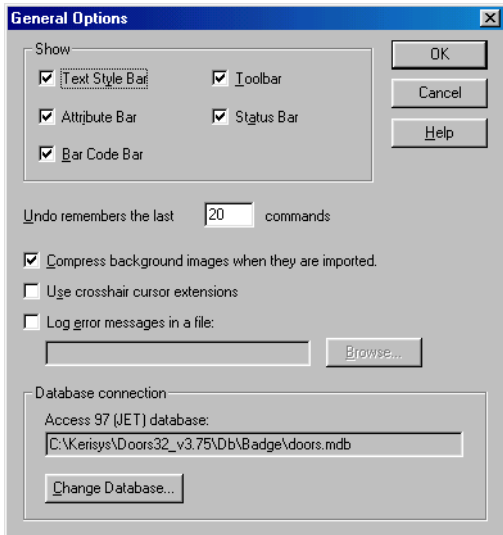

Figure 3: GuardDraw General Options
2. Click the View ⇒ Options pull-down menu. The General Options window appears (see Figure 3).
3. At the bottom of the window is the “Database connection” field. Verify the “Access97 (JET) database” value is set to C:\Kerisys\Doors32_vX.XX\Db\Badge\doors.mdb¹ (see Figure 3 on page 5).